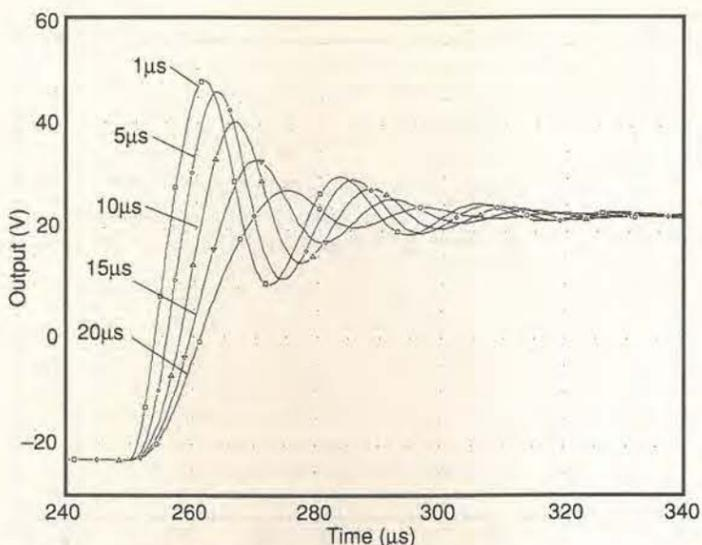

Fig. 10. Test-signal rise time has more effect on ringing than any other parameter. Varied here from 1 to 20µs.
**Rise time.** It is a commonplace that in audio technology, the real truth is quite different from the conventional wisdom. In fact, by far the most important factor affecting overshoot and ringing is the rise-time of the applied square wave. Figure 10 demonstrates how the overshoot given by the circuit of Fig. 1 is 51% for a 1µs rise-time, but only 12% for a 20µs rise-time.